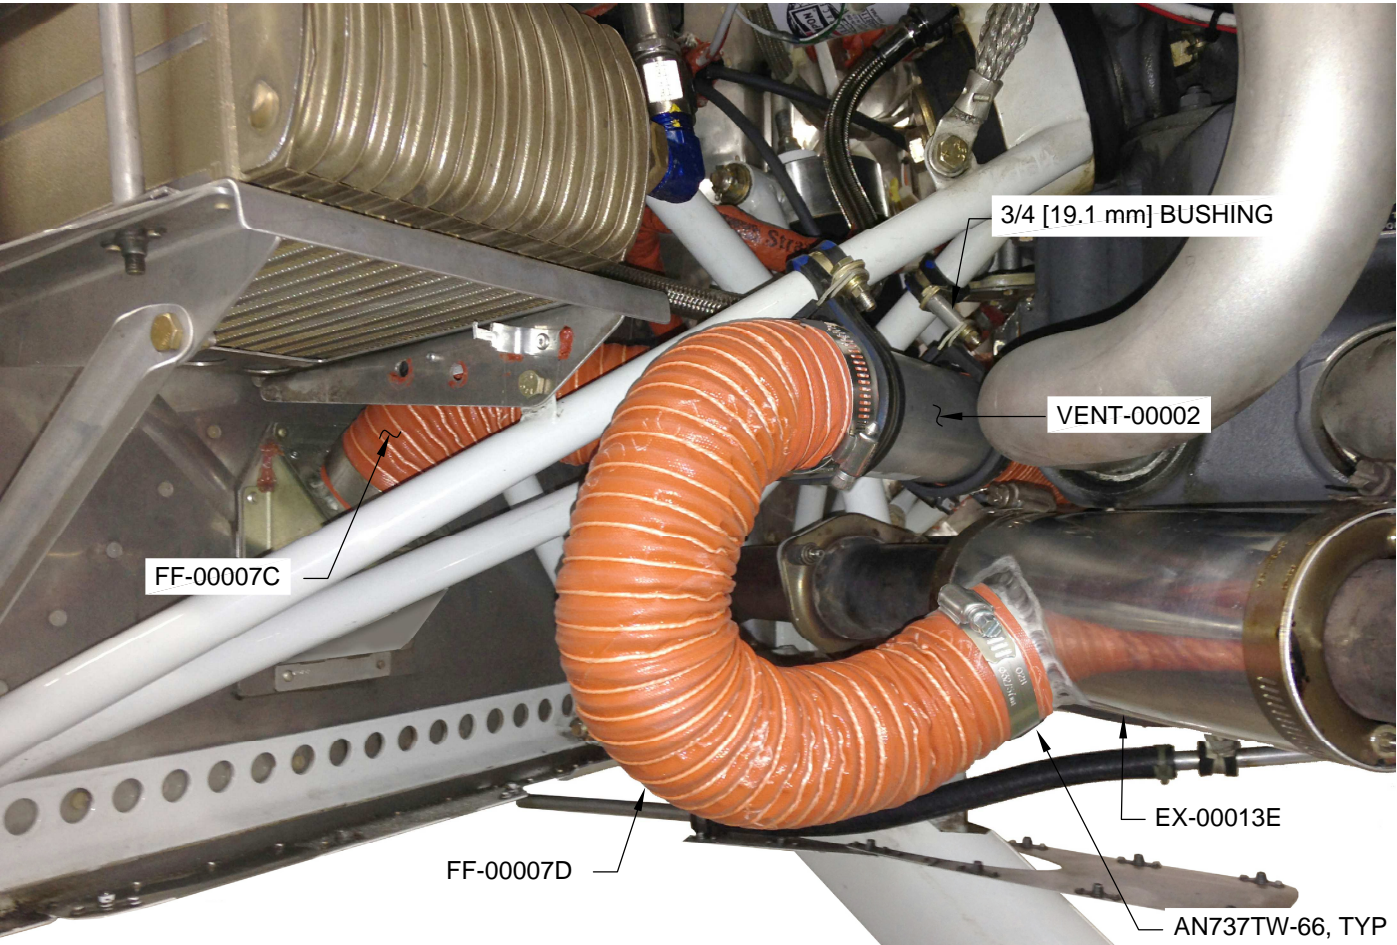

FIGURE 3: SCAT TUBE INSTALLATION (TRI-GEAR ONLY)
Step 2: Temporarily route and install the scat hoses, ensuring that they route as shown in Figure 2, and on Page 48-05, Figure 3 and Figure 4. Strive for minimal contact between the scat hoses and other components. In some areas, light contact with other components may be unavoidable.